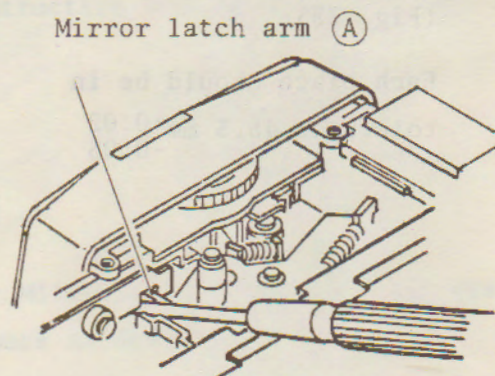

Fig.27
2. Insert the No. 4 screw driver as shown in Fig. 27 and then bend the mirror latch arm (A).